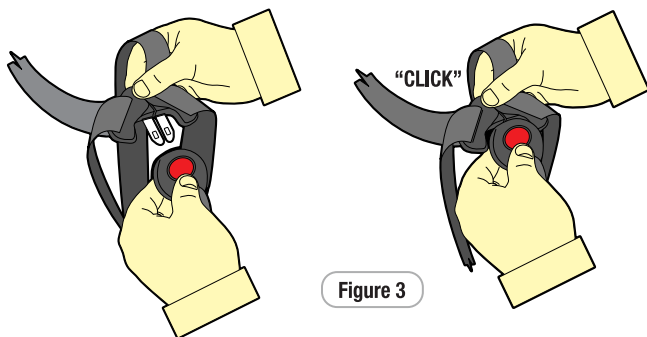

Figure 3
Step 3: Engage and disengage the Harness Tongues and Buckles several times until a strong audible **"CLICK"** is heard when inserting the last tongue (refer Figure 3).